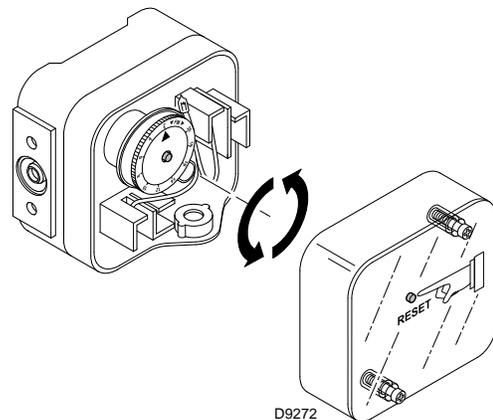

Fig. 36
- Adjust the maximum gas pressure switch (Fig. 36) to the end of the scale.
Adjust the maximum gas pressure switch after having performed all other burner adjustments with the maximum gas pressure switch set to the end of the scale (Fig. 36).